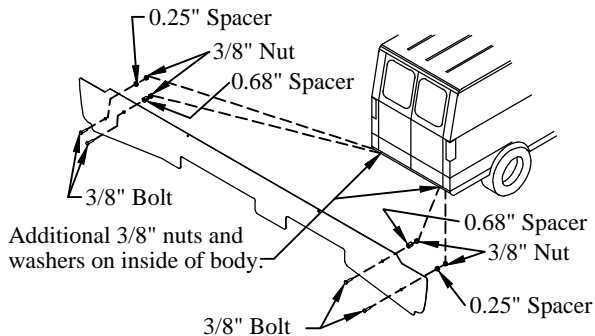

Figure 10: Rear cover hardware location.
- 11. Install** four (4) 3/8" bolts with spacers and hex nuts on the rear cover. The two (2) 0.25" spacers go on the lower two holes (Figure 10).
- 12. Install** the rear cover on the rear of the van (Figure 10). Use the supplied four (4) 3/8" flat washers, lock washers, and nuts.